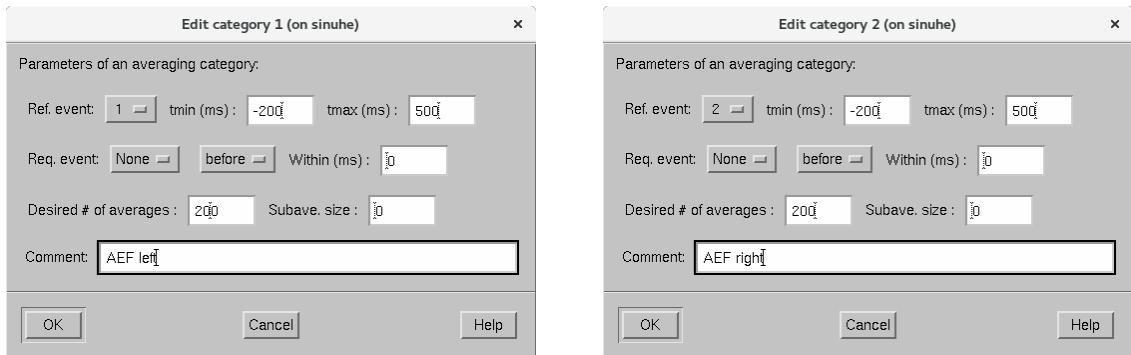

Figure 32: Setup event averaging categories for AEF left and right.
- Activate **Averaging categories** 01, 02 for on-line averaging (Figure 32):